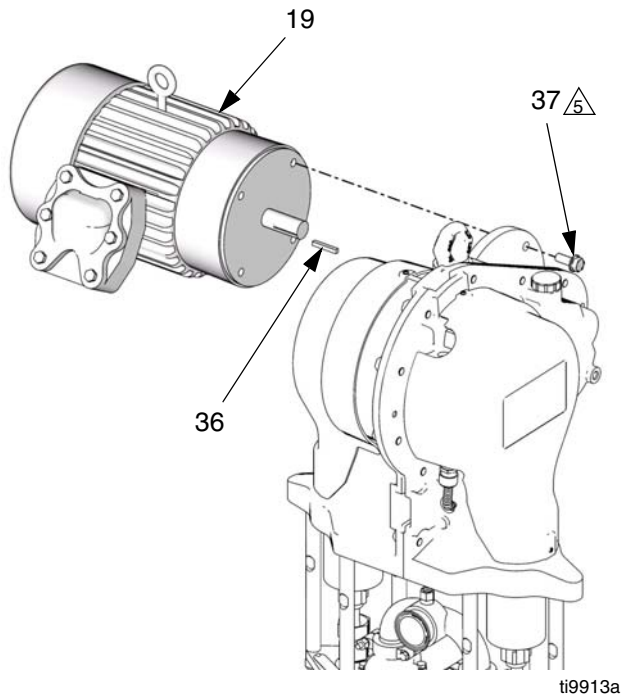

FIG. 1. Motor Installation
4. Lift the motor (19) into position. Align the key (36, FIG. 1) on the motor shaft with the mating slot of the motor coupler, and the four mounting holes with the holes in the gear reducer (1). Slide the motor into place.
5. While one person supports the motor (19), install the screws (37). Torque to 75-80 ft-lb (102-108 N•m).